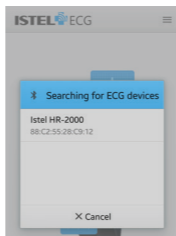

Fig. 20
- **My devices.** The Istel ECG application can gather data from multiple Istel HR-2000 ECG recorders. In the My devices tab, you can see the names of ECG recorders that the application has connected to; two ECG recorders are visible in Fig. 20.
A different device is set as default in the Istel ECG application.	Remove the unused Istel HR-2000 recorder saved in the Istel ECG application in the „My devices“ tab. Fig. 20.